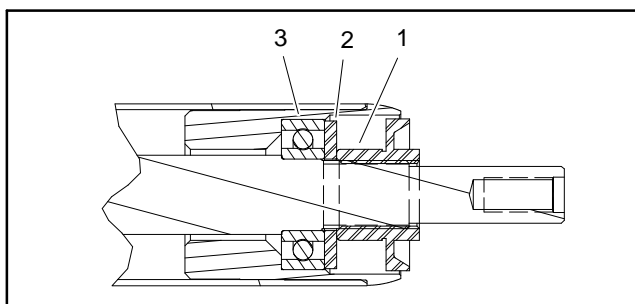

Figure 29
2. Position a new bearing, black assembly washer (see Special Tools) and original lock nut onto each end of the roller shaft (Fig. 29).